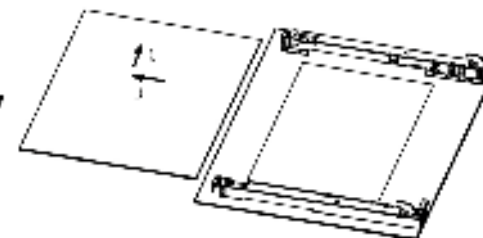

Fig.4
4. Take out middle glass. [Fig.4] the door again.